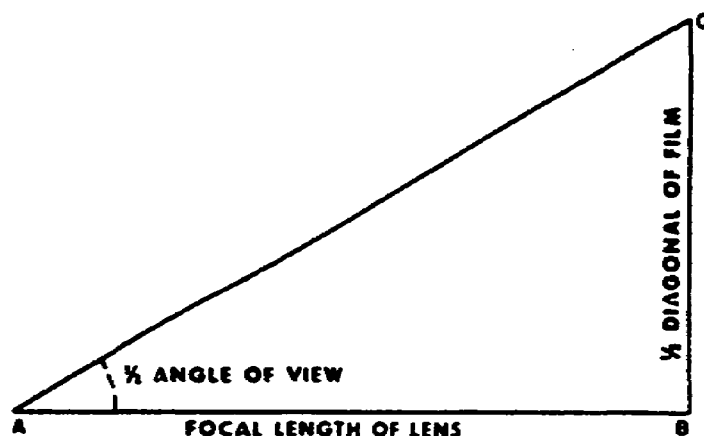

Figure 2-16. Determining angle of view.
- a. To determine the angle of view, draw a line AB equal to the focal length of the lens. Construct BC perpendicular to AB and locate point C so that BC is equal to one-half of the diagonal of the negative, (fig 2-16). Multiply the size of the angle by two to determine the angle of view.